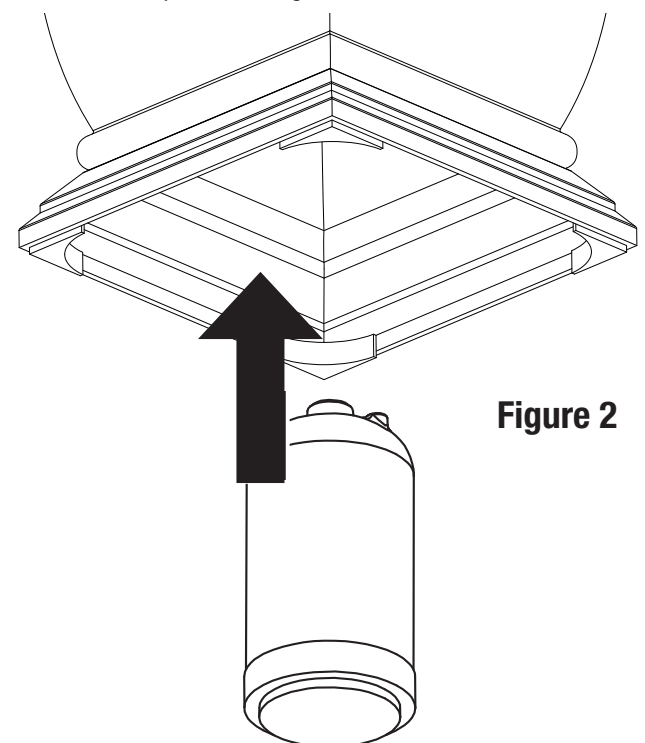

Figure 2
4. Insert LP gas tank (Figure 2).